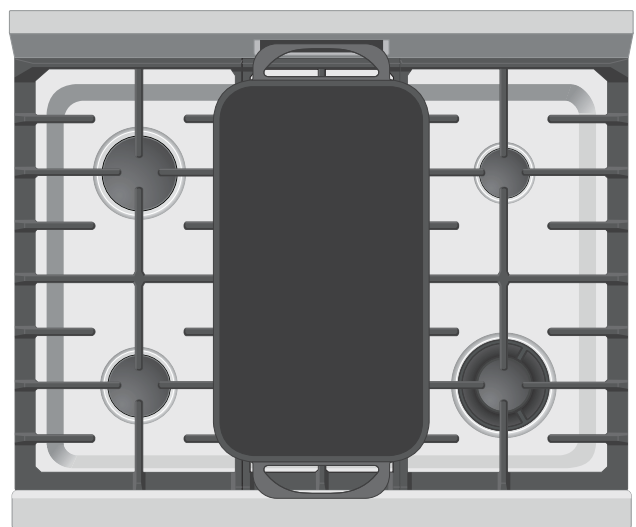

Figure 14: Griddle cooktop placement
1. Place the griddle in the center of the cooktop, completely covering the simmer oval burner and the two 12k BTU burners, as shown in Figure 14. Be sure the griddle sets stable on the burner grate.